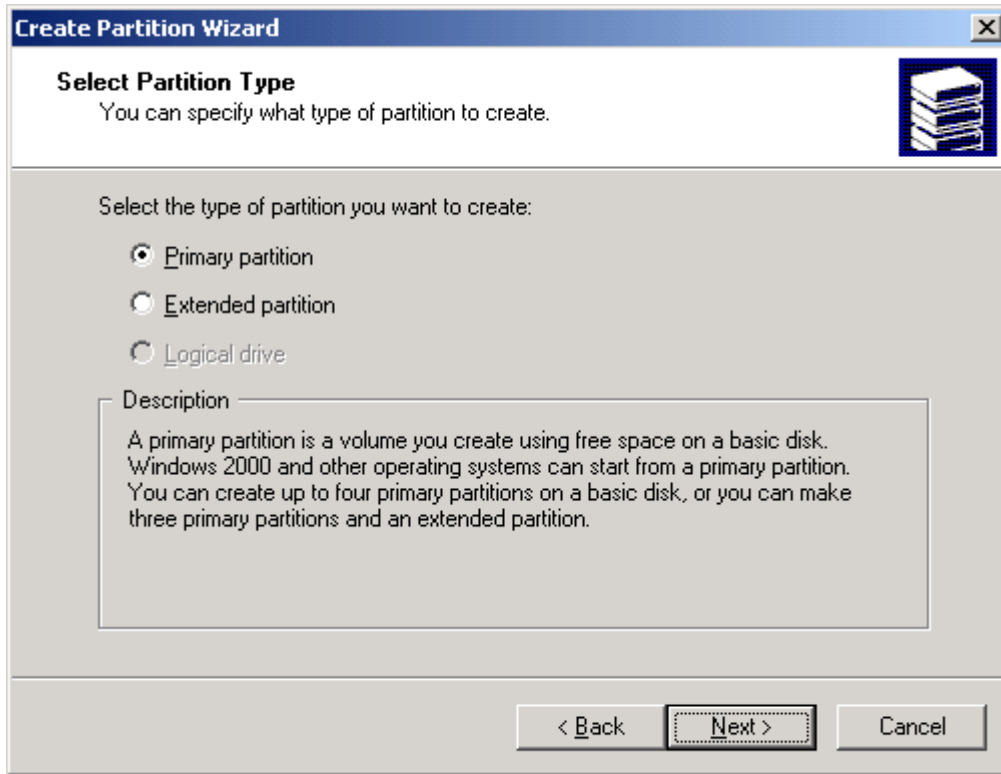

Figure 3.4 Create Partition Wizard Screen
To create and format partitions on the new SCSI disk devices (see Figure 3.4-Figure 3.11):
1. On the Disk Management main panel, select the unallocated area for the SCSI disk you want to partition, and select the **Create Partition** menu. A Select Partition Type wizard screen appears (see Figure 3.4). Select the desired type of partition, and click **Next**.